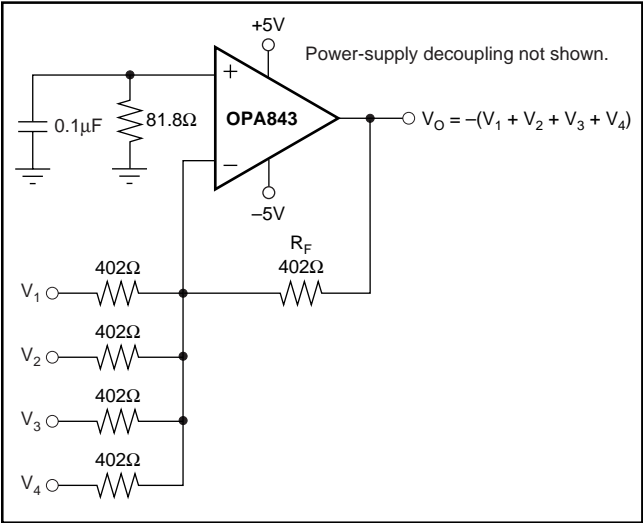

FIGURE 5. Wideband Inverting Summing Amplifier.
One common application for a wideband op amp like the OPA843 is to sum a number of signal sources together. Figure 5 shows the inverting summing configuration that is most often used. This circuit offers the benefit that each input sees an input impedance set only by its individual input resistor, since the summing junction (inverting op amp node) is a virtual ground. Each input is non-interactive with every other. However, the bandwidth from any input to the summed output is set by the op amp noise gain (NG), which is equal to the noninverting voltage gain. Therefore, each inverting channel may have a low gain to the output (like the  $-1$  shown in Figure 5); this noise gain will set the frequency response and the loop stability. The noninverting gain for Figure 5 is equal to  $+5$ , which will give a 260MHz bandwidth at a gain of  $-1$  for each of the input signals.